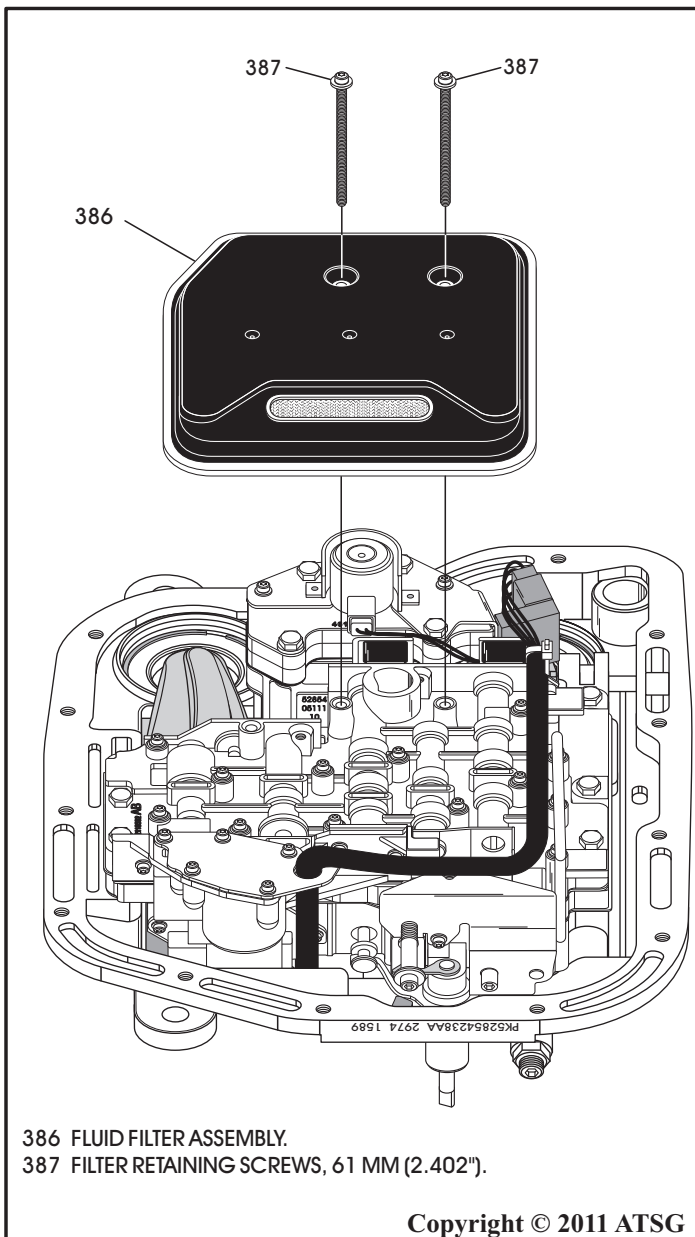

Figure 228
38. Install a new oil filter on valve body, as shown in Figure 228, and torque retaining screws to 4 N·m (35 in.lb.).